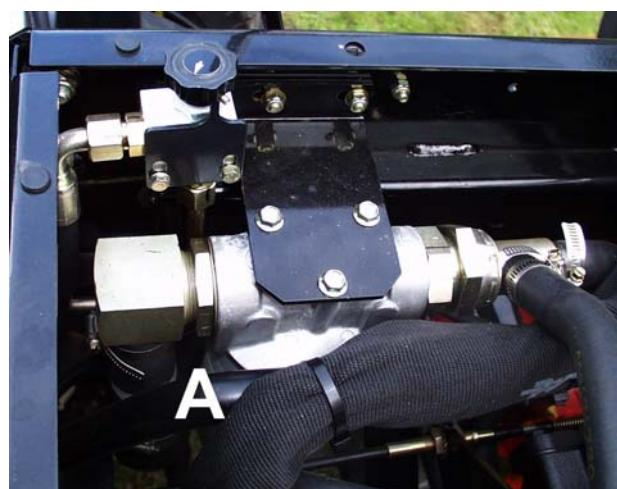

Fig.6
Change Hydraulic Oil Filter (A)(Fig.6)